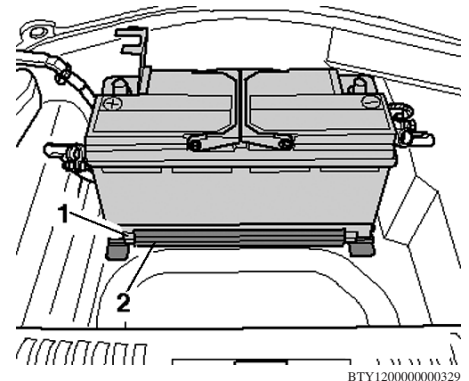

Fig. 6 Battery installation. Luggage compartment
2. Battery clamping strip (1) must engage in battery holder mount (2), **Fig. 6**.